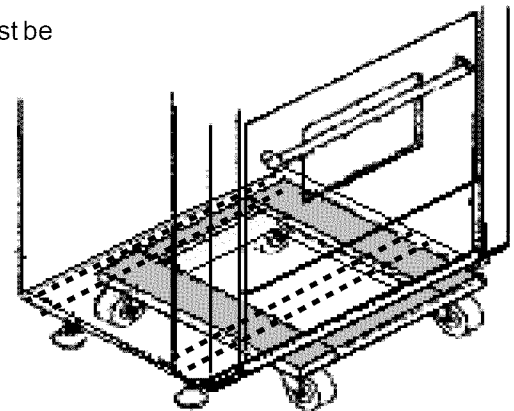

FIGURE 7: FURNITURE DOLLY POSITIONING
- Due to the weight, a furniture dolly with soft wheels or an air lift should be used to move this unit. The weight must be supported uniformly across the bottom (see Figure 7).